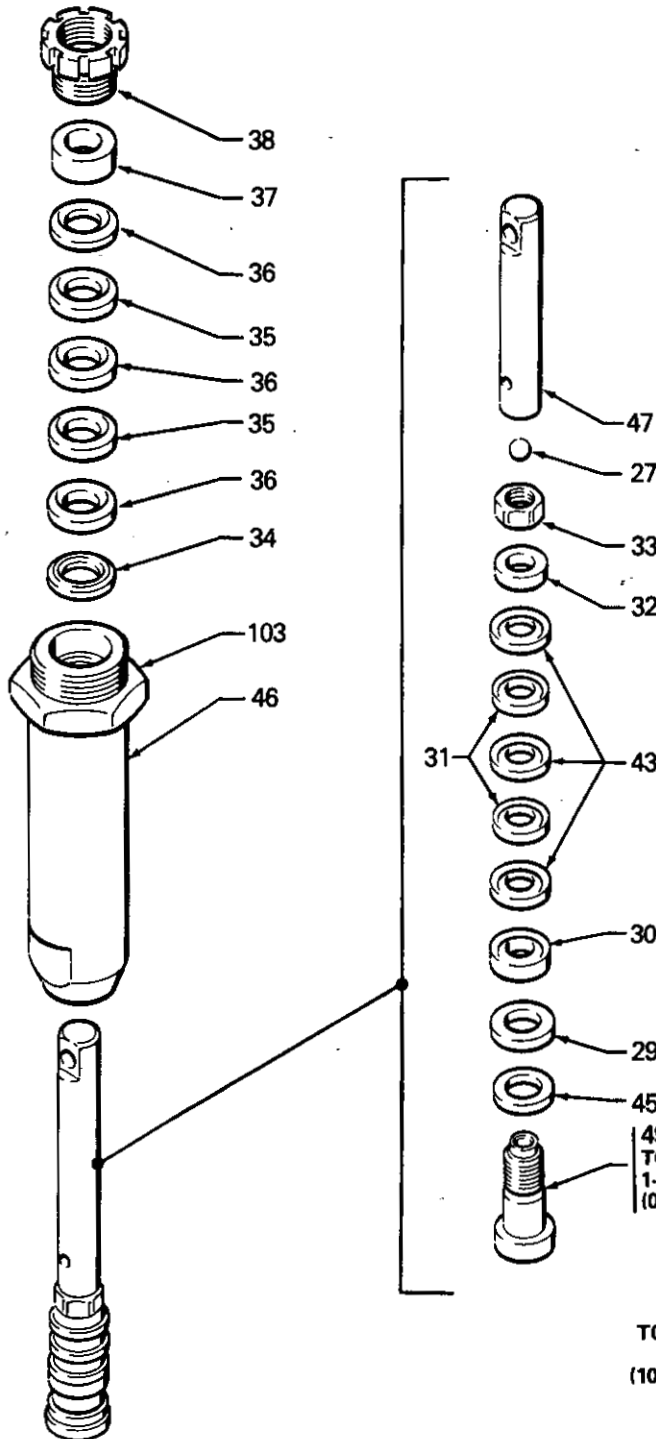
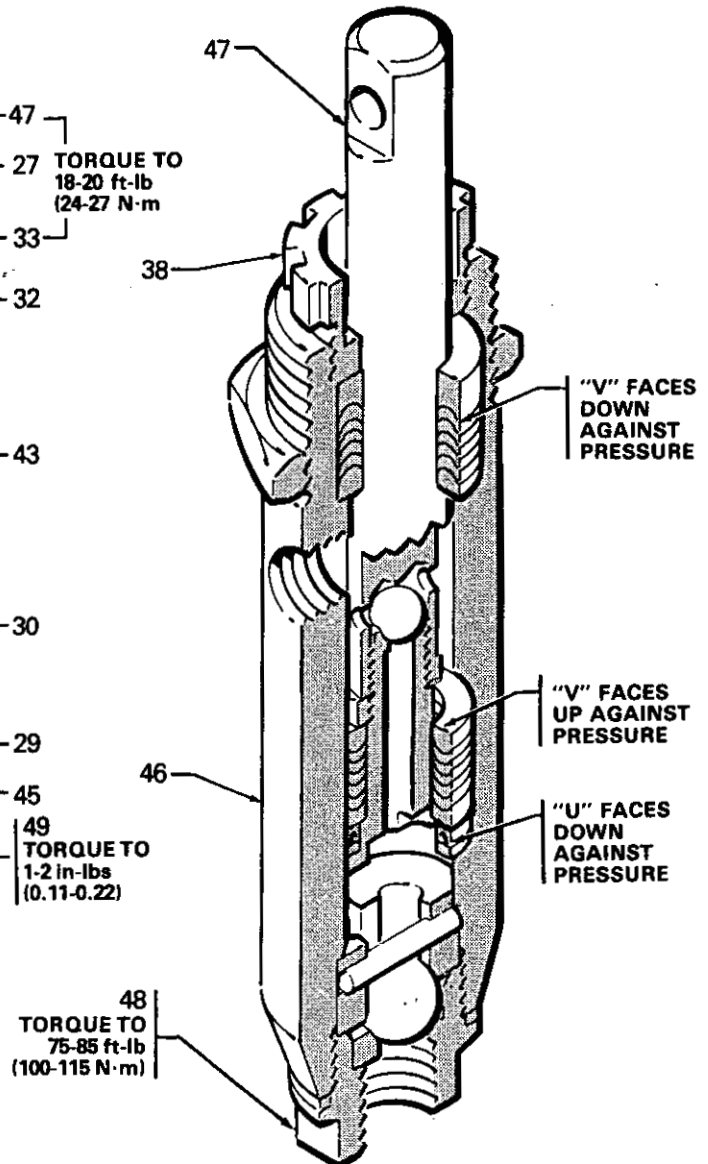

Fig 3
Fig 4
Unscrew and remove the packing nut (38). Using a rubber mallet, tap the piston rod (47) down and pull it out through the bottom of the cylinder (46). See Fig 3 and 4.
When reassembling the piston, install the new glands and packings in the correct order, alternating the leather and plastic packings. See Fig 3. The "V" of the packings must face up against the fluid pressure. See Fig 4. Tighten the nut (33) to 10.5 in-lb (1.2 N·m) to seat the packings, then back off the nut and hand tighten it.